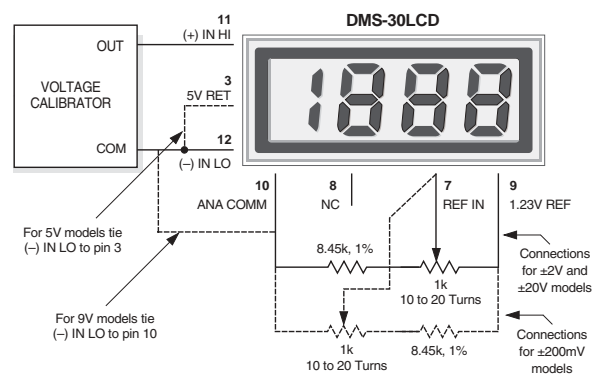

Figure 9. External Gain Adjustment
- 7. Gain Adjust:** There is a gain-adjust potentiometer on the back of each meter. It has approximately ±50 counts (±2.5%) of adjustment range. Since these devices essentially have no zero/offset errors, a gain adjustment is effectively an overall accuracy adjustment. Though they may be performed at any point (except zero), accuracy adjustments are most effective when performed with higher level input signals. Refer to Figure 9 for applications requiring greater (±10%) gain adjustments.
7. **External Gain Adjustment:** Connect REFERENCE OUT (pin 8) to REFERENCE IN (pin 7) for normal, factory calibrated, operation. Use the +1.23V REFERENCE OUT (pin 9) for applications needing external gain adjustment. Figure 9 shows the wiring configuration for each model. Calibration is performed with a precise, near-full-scale, input voltage.